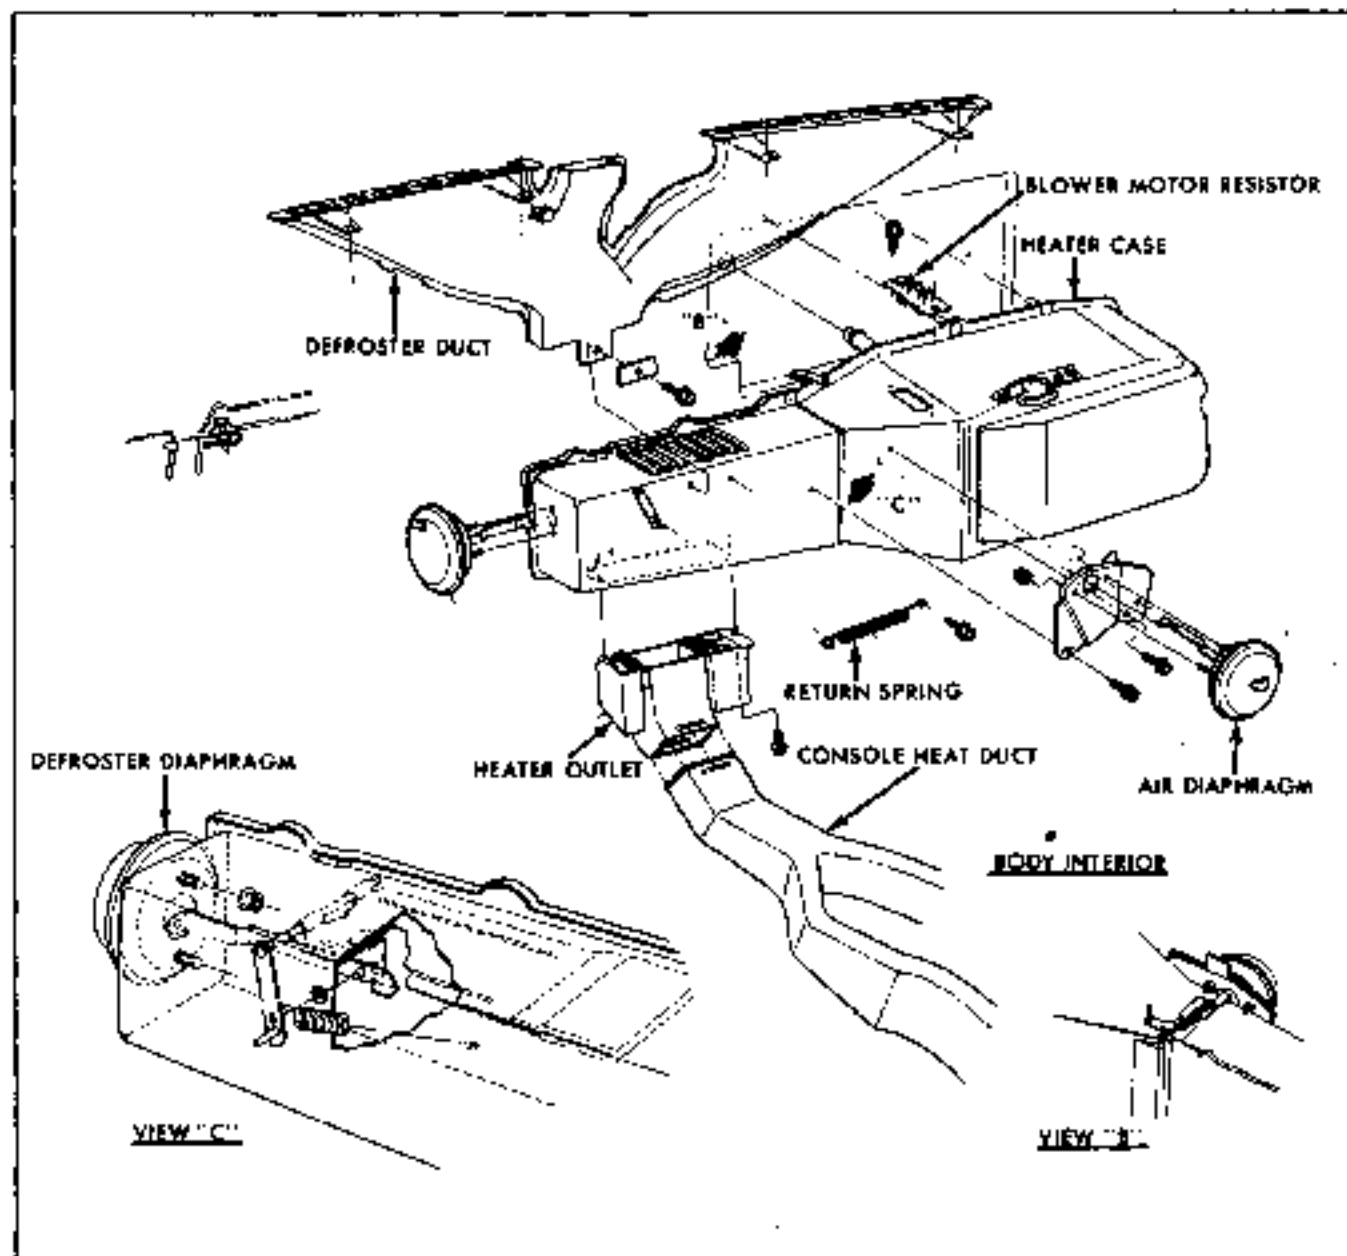

Fig. 1-6 Grand Prix Vacuum Diaphragm and Duct Installation
2. Remove heater outlet (Fig. 1-6).